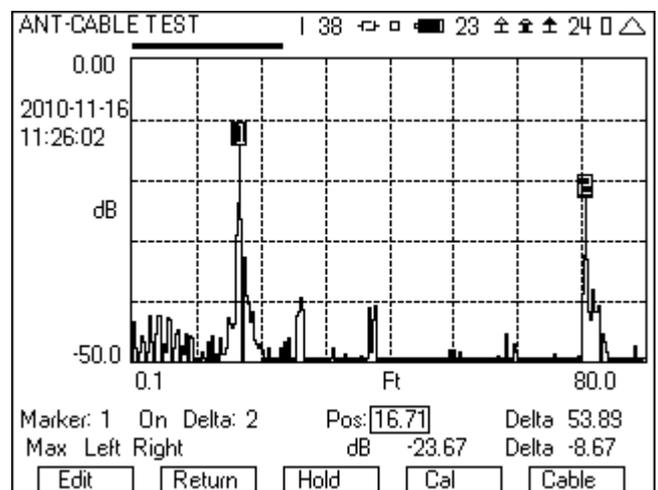
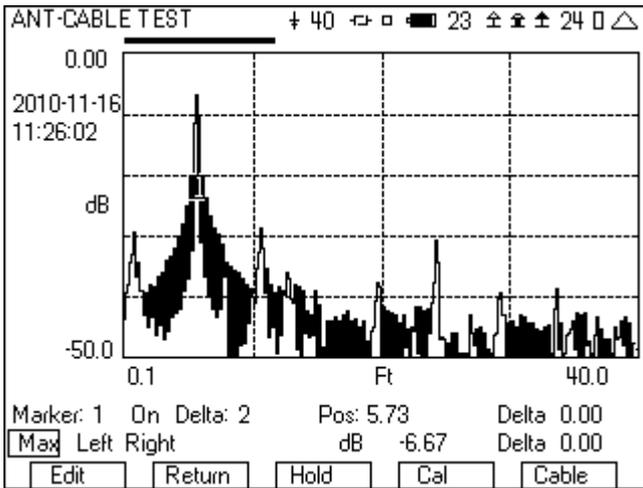

Figure 26 - Distance to Fault graph
Figure 27 - Distance to Fault showing end of cable
Ideally, the return loss is very low except at the very end of the cable. If there is a fault in the cable, the graph will show a higher return loss at the distance corresponding to the position of the cable fault. The graph will also show a higher return loss at the position of the end of the cable, unless the cable is totally open or shorted at the position of the fault. By placing markers at the position of the peak return loss in the cable, the location of the fault or the length of the cable can be determined. Figure 26 illustrates this, with marker 1 at the position of the fault and marker 2 at the position of the end the cable. This shows that the fault is located 16.71 ft from beginning of the cable. There is also a delta measurement, which in this case is showing the delta from marker 1 to marker 2. Since marker 2 has been positioned at the end of the cable, the Delta measurement tells us that the fault is located 53.89 ft from the end of the cable.
If there is no fault, then only the end of the cable will show up as a fault. Figure 27 shows the result of measuring a 5.73 ft cable with no fault. Anything in the graph after the end of the cable can be ignored.
7. Your graph may now look like Figure 26 or Figure 27 depending on the fault(s).